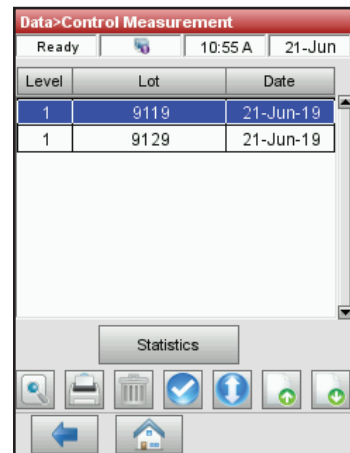

Figure 10. Data > Control Measurement screen
3. In the Data > Control Measurement screen (figure 10), select the run (located on the left side of the screen) that you want to review.
4. Tap the applicable button on the right (figure 10):